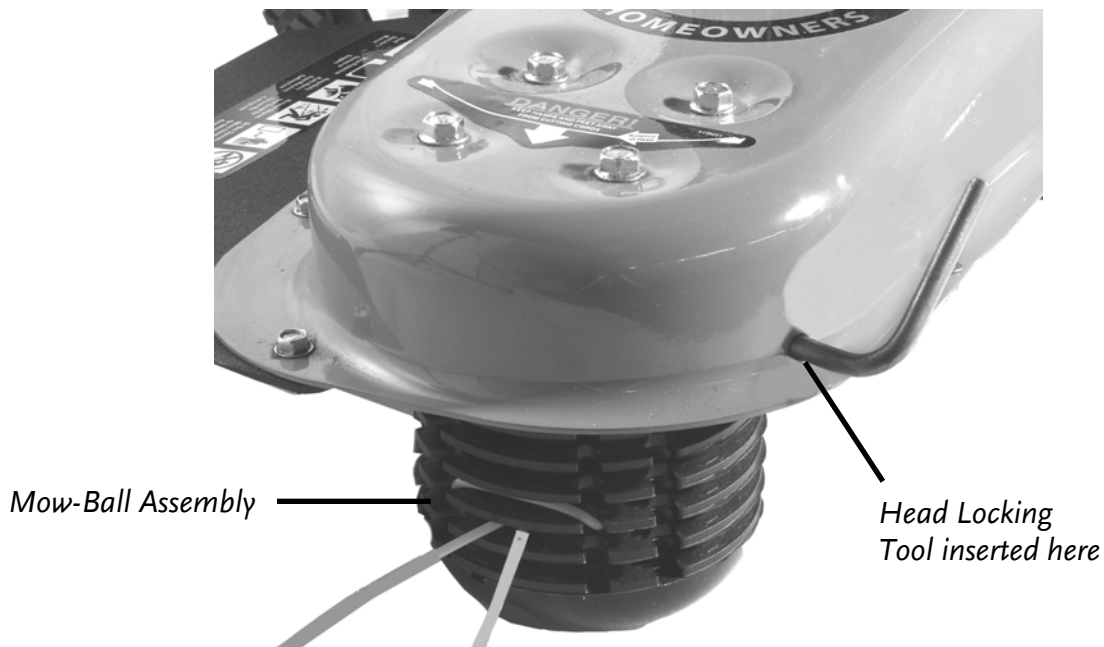
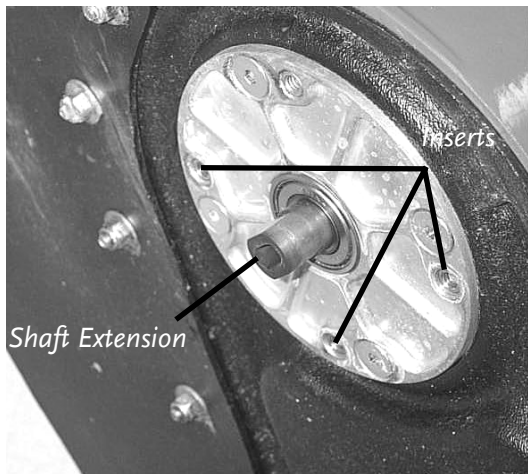

Figure 2
Figure 3
1. Remove the Mow-Ball™ assembly used for mowing. See the DR® Trimmer/ Mower™ Safety & Operating Instructions for step-by-step instructions (**Figure 2**)
2. Hold the bearing shaft to prevent it from turning using a screwdriver or the head-locking tool (**Figure 2**). Install and tighten the shaft extension (**Figure 3**) with adjustable wrench or 5/8" wrench until snug. Do not over tighten.